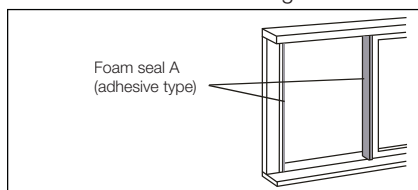

Fig. 18
1. Cut the foam seals (adhesive type) to the proper lengths and attach them to the window frame. See Fig.18.